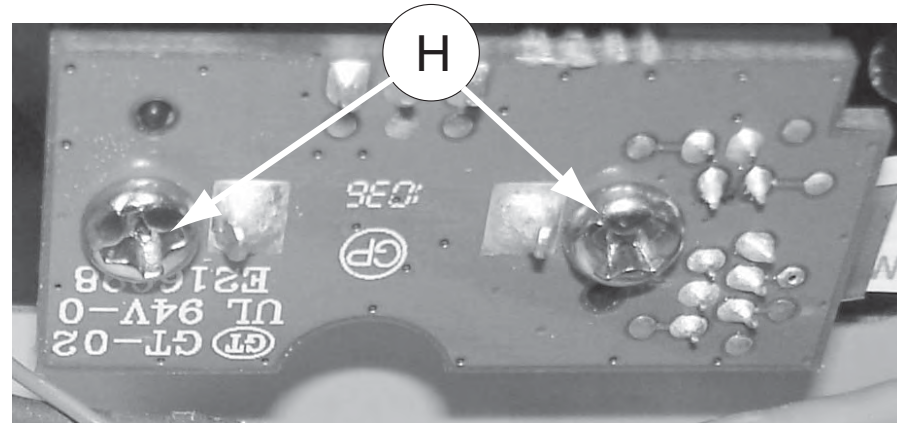

Figure 10
- 1) Loosen 2 screws "H" as shown in figure 10 to remove VOL Board.